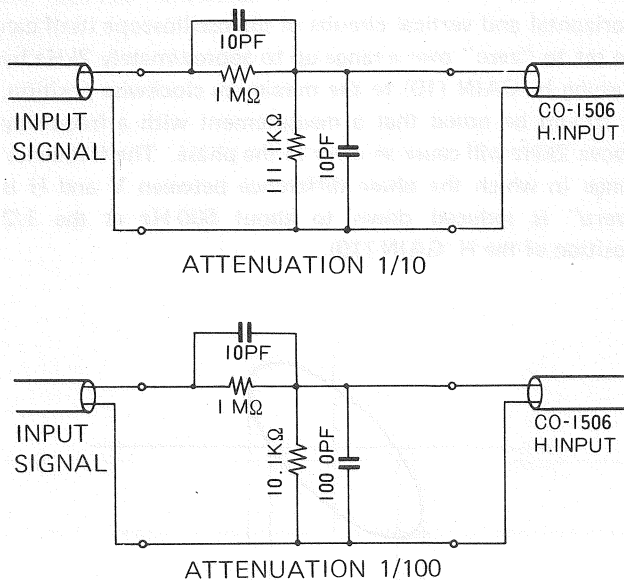

Fig. 7 Connection of attenuator
If the input signal is large, the measurement should be performed with an attenuator inserted between the GND (7) and H. INPUT (8) as shown in Fig. 7. In this case, VAR/H. GAIN (10) should also be set to the position of a highest possible gain.